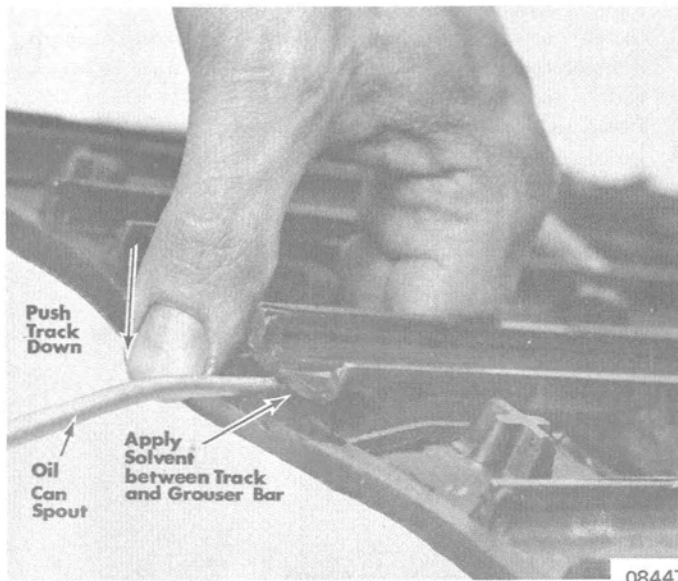

Figure 8. Grouser Bar Removal
2. With an oil can or other suitable container, apply MEK (methyl ethyl ketone) or acetone between track and grouser bar (Figure 8) where cut was made.